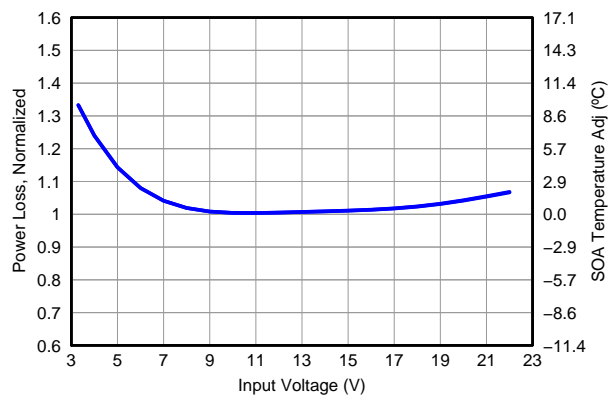

Figure 7. Normalized Power Loss vs Input Voltage
- Normalized Power Loss for input voltage ≈ 1.0 (Figure 7)
- SOA adjustment for input voltage $\approx 0.1^\circ\text{C}$ (Figure 7)